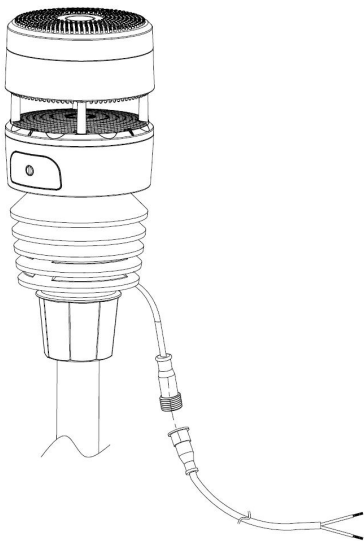

Figure 4: Sensor package mounting diagram 6-2
1. If optional extension cord is added, connect the cord to the connector and insert the USB port into the AC adaptor as Figure 4 show: